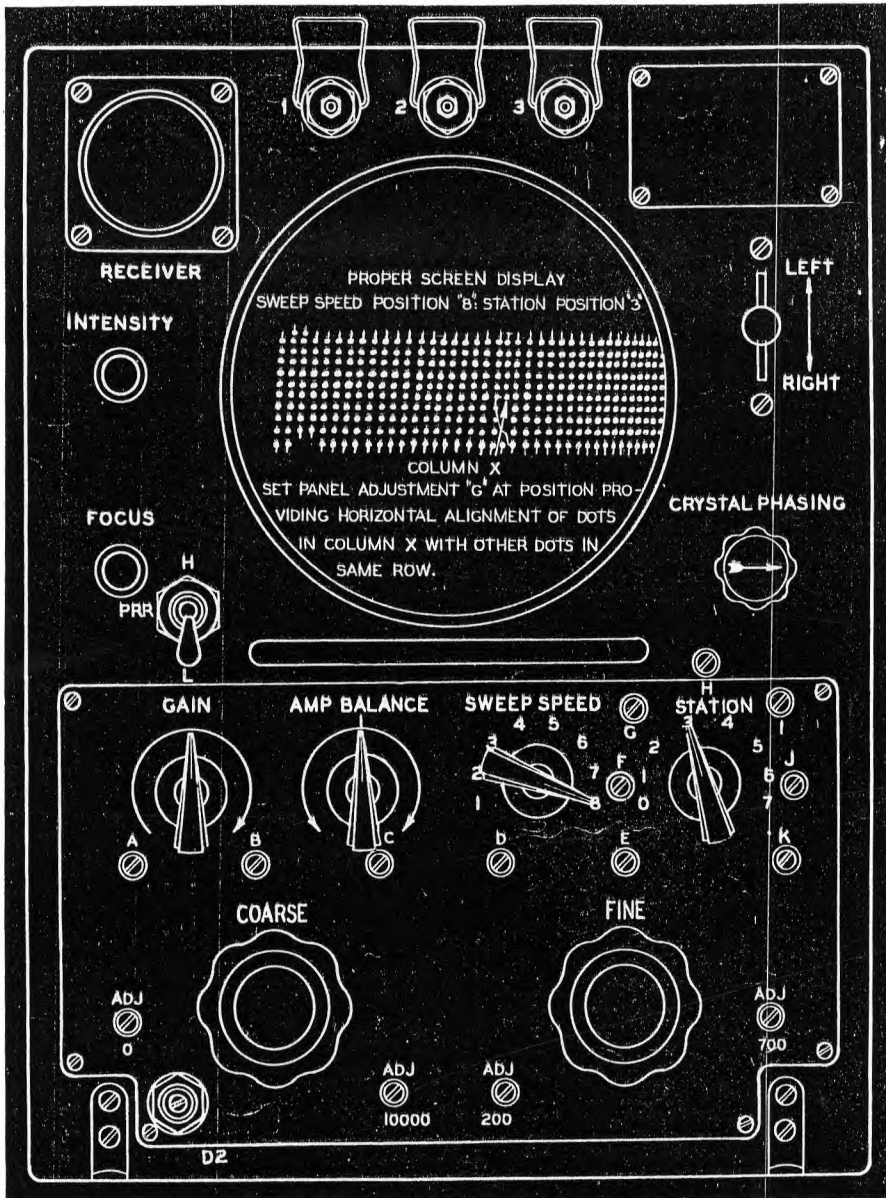

Figure 2-18A. Indicators *ID-6/APN-4 and *ID-6A/APN-4—
1. Turn "STATION" selector to position "2." (See fig. 2-18A.) Observe that the dot in the fourth row of column "X" has moved upward to coincide or nearly coincide with the dot in the fifth row. Notice also that column "X" and the adjacent column of dots (to the left) are moving closer together as the "STATION" selector is rotated to the right. This condition is normal and indicates for each successive position of the "STATION" selector a deletion of 50 microseconds from the normal 500 microseconds between the start of each column.
2. Adjust panel adjustment "G" to obtain the pattern shown in figure 2-18A and exact horizontal alignment of the dots in column "X" with the dots in the columns on either side.